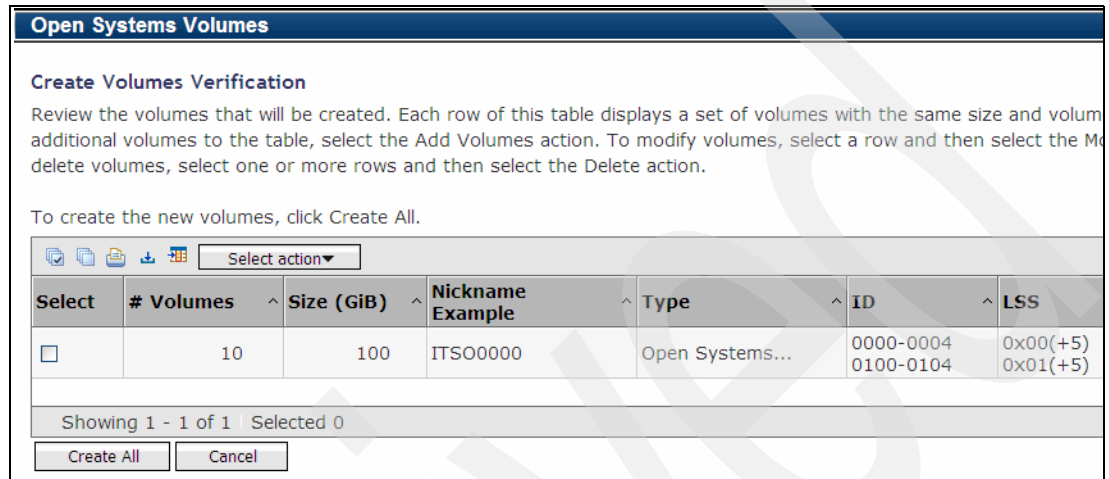

Figure 13-60 Create Volumes Verification window
9. The Create Volumes Verification window shown in Figure 13-60 opens, listing all the volumes that are going to be created. If you want to add more volumes or modify the existing volumes, you can do so by selecting the appropriate action from the Select action drop-down list. Once you are satisfied with the specified values, click **Create all** to create the volumes.